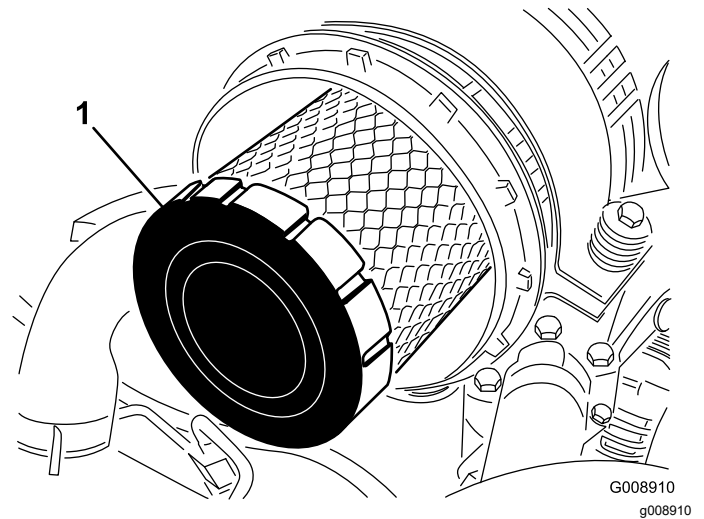

Figure 59
4. Remove the primary filter (Figure 59).